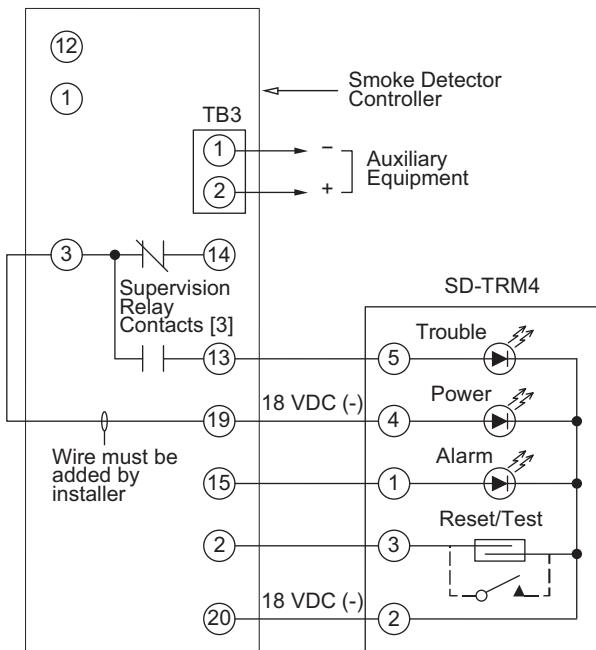

Fig. 44 – Remote Test/Reset Station Connections
The test/reset station dirty sensor test checks the test/reset station's ability to initiate a sensor dirty test and indicate the results. It must be wired to the controller as shown in Fig. 44 and configured to operate the controller's supervision relay. For more information, see "Dirty Sensor Test" on page 35.
1. Verify that the remote test/station is wired as shown in Fig. 44. Repair or replace loose or missing wiring.